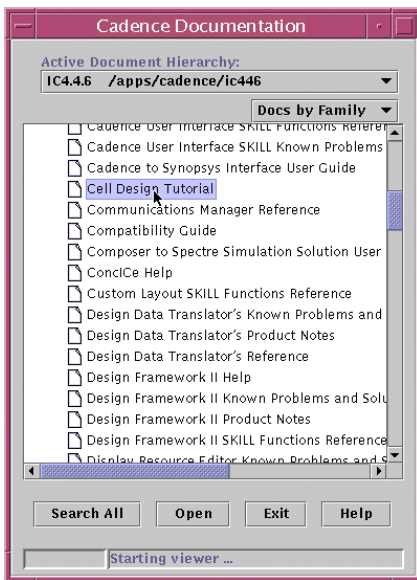

Figure 57: Cell design tutorial
5. Go down in the window, select Virtuoso, and select cell design tutorial (Figure 57.)